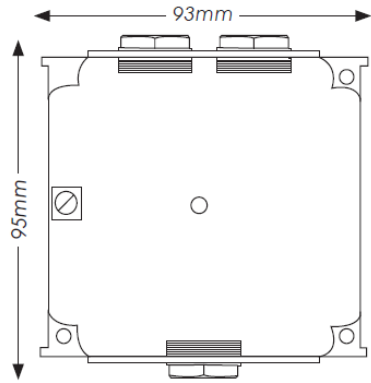

Fig 1 Backbox
1. Fit the backbox to a flat surface using the three fixing holes and screws provided. The cable entry holes should be in the vertical plane. The backbox can be mounted with either the single or double entry holes at the top (figure 1)